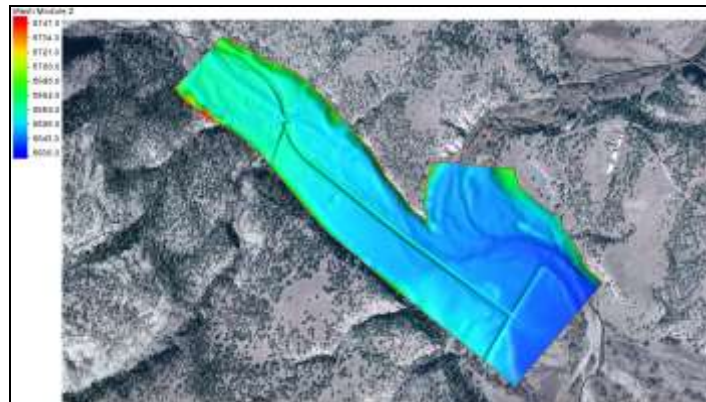

Figure 1 Gila\_Flow.sms project
4. Click **Open** to import the project file and close the *Open* dialog. The Graphics Window should appear similar to Figure 1.